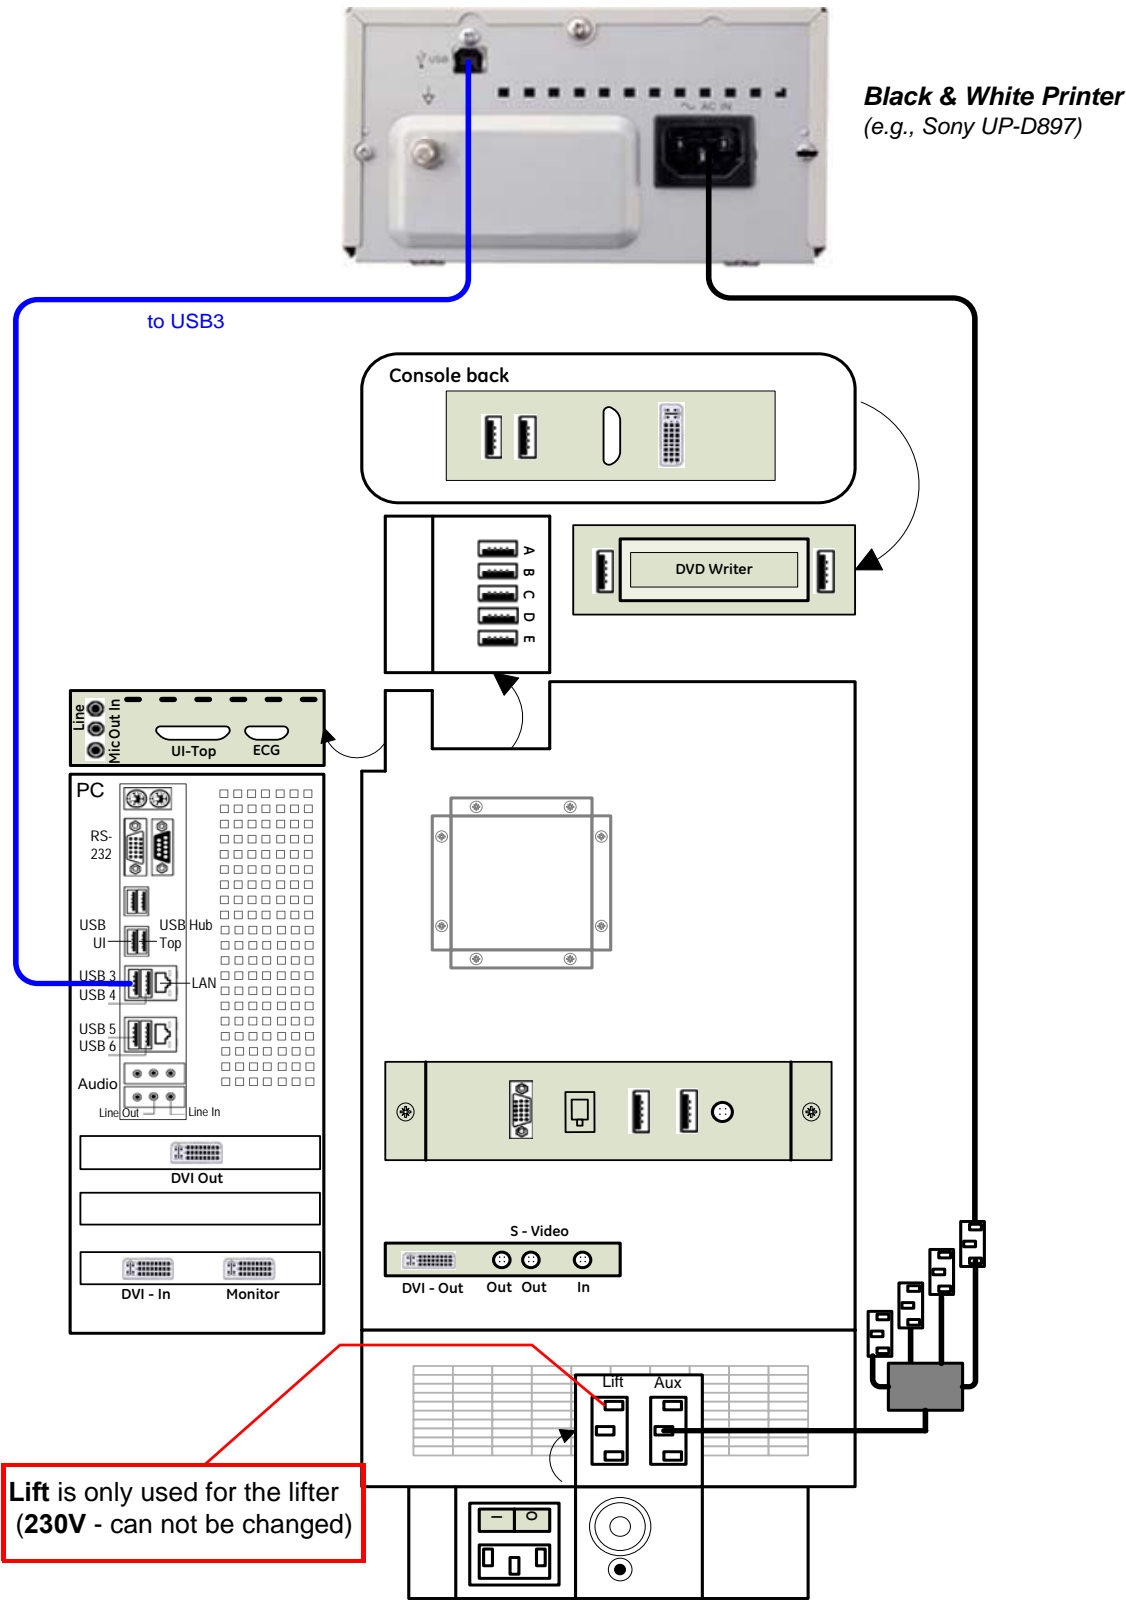

Figure 3-6 B&W Printer connection
- 2.) Connect the Black & White printer according to connection scheme, see: Figure 3-6 on page 3-12.